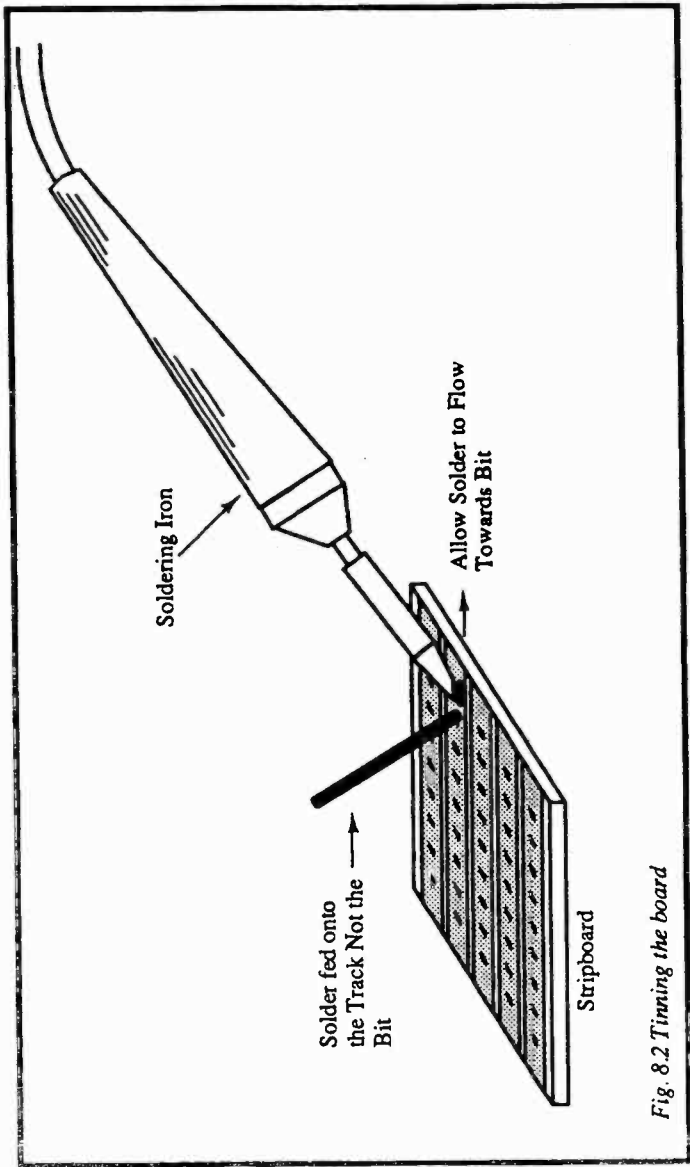

Fig. 8.2 Tinning the board
2. Tinning the Board (Figure 8.2) Like the wire, the board will be easier to solder to if it has been pre-tinned. This unfortunately cannot be done when a component has to be inserted into the holes of the board, as pre-tinning will fill the holes and prevent insertion of the component.